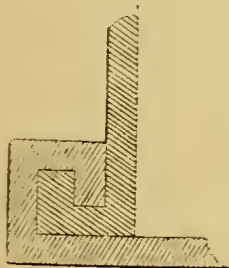
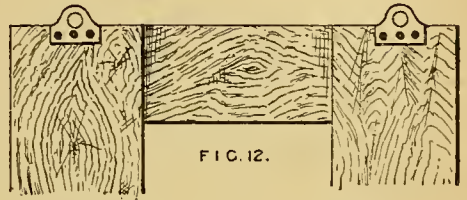

FIG. 1.—TURNED UP SEAM.
FIG. 12.
G. J.—The Leclanché outer cell or glass container is half-filled with solution of sal-ammoniac and water—enough sal-ammoniac to saturate the water, but not leave crystals at the bottom. In this cell the zinc rod or negative pole is placed. You are, no doubt, thinking of the porous or inner cell, which is filled with a mixture of equal volumes of binocide of manganese (needle manganese) and gas carbon, broken small and freed of dust, with a plate of carbon placed in the centre, which constitutes the positive pole. Further particulars if necessary. In answer to your other question, Fig. 1 will suit your requirements. A and D
For instance, Fig. 1 represents a joint or seam which is used in articles innumerable, more especially for bottoms of bread tins, dripping tins, and flaring articles. This joint is known in the trade as a "turn-up" seam or joint.
PERHAPS, of all articles of drawing-room furniture, a handsome mirror is the most attractive and the most essential. The truth of this is at once made manifest when one enters a room which does not contain a mirror. No matter how handsome the furniture, how elaborately upholstered the chairs, etc., how fine the pictures, there is a certain deadness, a sense, in fact, of something wanting, something which will infuse a little life, a little cheerfulness into the room, which at present possesses but little of these, if, indeed, it possesses any at all. It is, I believe, a well-known fact, that every mirror, no matter how small, tends to increase the light of a room, and in consequence, the more numerous, and the larger the mirrors, so much the lighter and more cheerful the room. This is very evident in the gaslight, because the light of each jet is reflected from every mirror which is within reach of its rays, thus increasing the light of the room to a very great extent. Handsome mirrors, however, are very expensive, and are, therefore, not as frequently seen as they might be. It is my intention, however, in this article, to describe the construction of a mirror which is handsome and large, and which at the same time has the merit of being comparatively inexpensive. Moreover, it is so easy to make that even the most ignorant amateur will, with very little trouble, be able to manufacture it. As will be seen from the illustration, Fig. 1, the mirror has a plush frame, and is relieved by three brackets, together with two brass candlesticks. This, when properly and neatly made, makes an extremely beautiful ornament, and may be suspended either over the mantelpiece or in any other part of the room. Let us then proceed to construct our mirror.
FIG. 1.—THE MIRROR COMPLETE. FIG. 2.—REBATE FOR GLASS. FIGS. 3 AND 4.—METHOD OF HALVING PIECES TOGETHER. FIGS. 5, 6, 7 AND 8.—METHOD OF CUTTING AND FASTENING DOWN THE PLUSH. FIG. 7a.—BACK VIEW OF FRAME, SHOWING THE PARTS XX IN FIG. 7 TURNED IN. FIG. 9.—SHELF. FIG. 10.—ALTERNATIVE FORMS OF BRACKET. FIG. 11.—METHOD OF FIXING SHELF. FIG. 12.—METHOD OF HANGING THE MIRROR.
should be supported by two supports of the same size as the others, one at each end. Now procure the candlesticks, and fasten them, one at each side, just over the joints of the plush, as in Fig. 1. These candlesticks are to be obtained from any fancy shop or furniture store. They cost from  $6\frac{1}{2}$ d. each, upwards. Very suitable ones ought to be obtained for 1s. 6d. each. They
over the back. Now glue or tack a piece of strong black calico over the back to cover up the joints, etc., and to give a neat appearance to the whole. The mirror will be suspended by fastening brass loops at the top of the frame, as shown in Fig. 12.
especially, though, the old and feeble rustic in the smock-frock, the old village wiseacre who knows everything, but takes so long to tell it. Fig. 9 is a straight hair wig, bald in the centre; Fig. 10, old man's high forehead wig; Fig. 11, Father Christmas white flowing wig, bald at top; Fig. 12, Shylock bald wig; Fig. 13, Spriggins wig with whiskers, and bald at back; and Fig. 14 is another half-bald wig for serious characters, and similar to the one worn by Mr. Wilsou Barrett in "The Silver King."
FIG. 3.—DRESS WIG, CENTRE PARTING. FIG. 4.—SCRATCH WIG. FIG. 5.—CHARACTER, BALD. FIG. 6.—CHARACTER, HALF BALD. FIG. 7.—COMIC OLD MAN, BALD. FIG. 8.—DITTO, OLDER. FIG. 9.—CENTRE BALD. FIG. 10.—OLD MAN, HIGH FOREHEAD. FIG. 11.—FATHER CHRISTMAS. FIG. 12.—SHYLOCK, BALD. FIG. 13.—SPRIGGINS, BALD AT BACK. FIG. 14.—HALF BALD, LONG HAIR (SILVER KING). FIG. 15.—CAVALIER OF CHARLES II. FIG. 16.—GENT'S COURT BAG WIG. FIG. 16A.—GENT'S COURT WIG. FIG. 17.—POWDER WIG. FIG. 18.—QUAKER'S WIG. FIG. 19.—FRIZ WIG FOR EITHER SEX. FIG. 20.—CHINAMAN. FIG. 21.—MEPHISTOPHELES. FIG. 22.—ENGLISH CLOWN. FIG. 23.—FRENCH CLOWN. FIG. 24.—PANTALON.